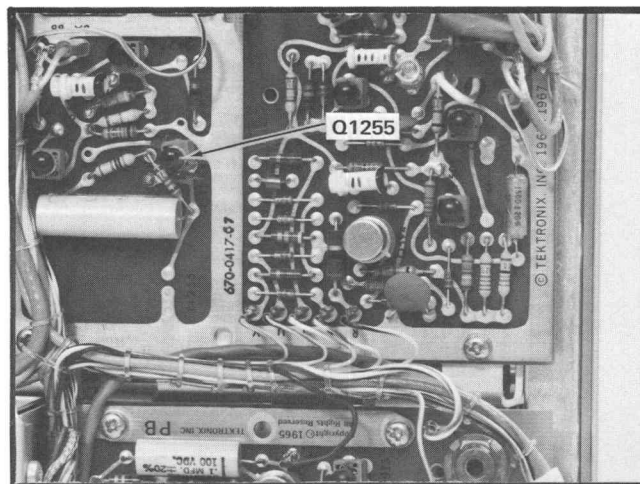

Fig. 5-3. Location of Q1255 (sweep board).
- b. Remove Q1255 (see Fig. 5-3) from its socket.